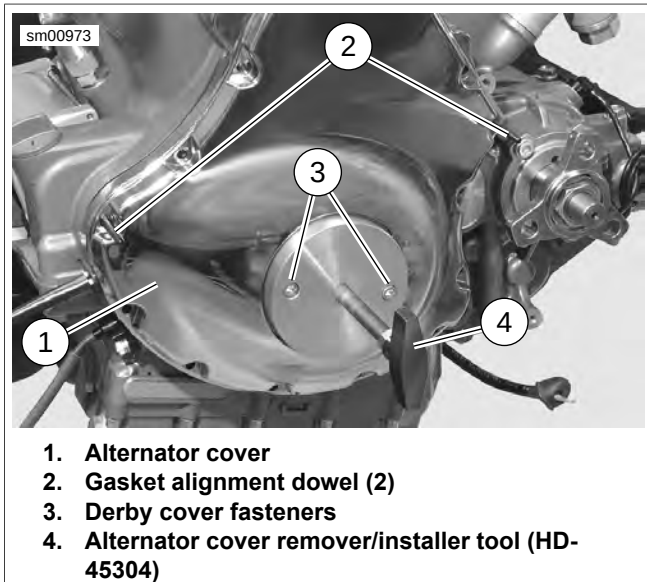

Figure 7-31. Removing Alternator Cover
12. See Figure 7-31. Using two inspection cover fasteners (3), position ALTERNATOR STATOR COVER REMOVER/INSTALLER TOOL (Part No. HD-45304) (4) as shown.
4. See Figure 7-31. Make sure ALTERNATOR STATOR COVER REMOVER/INSTALLER TOOL (Part No. HD-